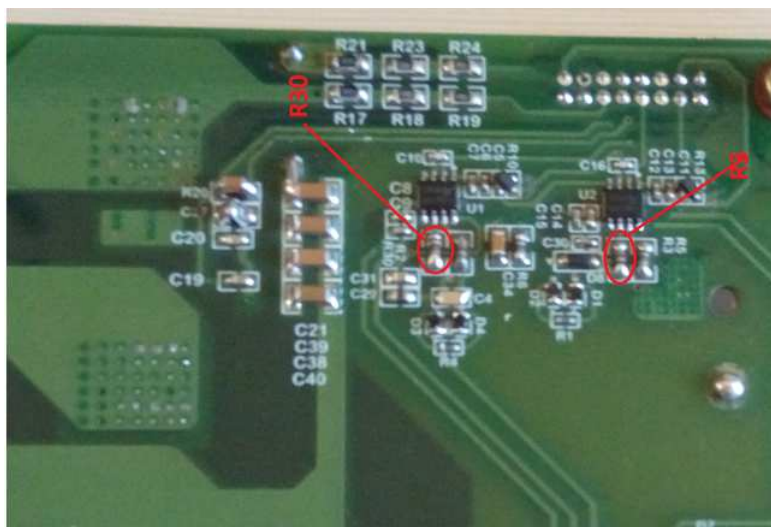

Figure 16: Location of R30 and R3 on the power board of Wolfspeed's CRD-02AD065N reference design board
2. Insert the controller card into the connector (J2) of the power board. The connector of the controller card should face the power board as shown in Figure 16. The controller card should be on the top of the marking of "Controller Board".